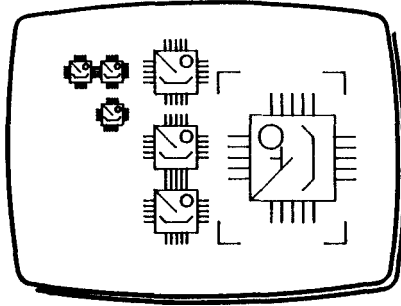

Fig 1
- 3 **Plant different sizes of the symbol at various position as shown in Fig 1 (those at top left are at 12.5%).**